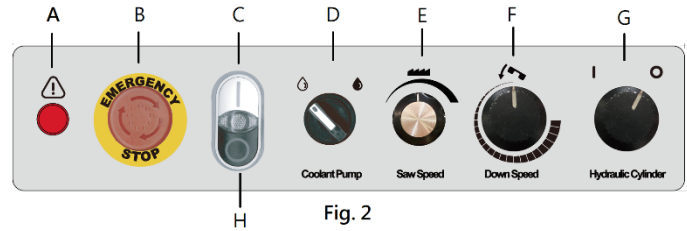

Fig. 2
2. The machine is started by pushing the start button (C) (see Fig.2). And it will continue to run until the saw arm is in the down position at the end of the cut, or when the stop button (B) is pushed.
3. When in emergency push button (B) to stop the machine. After removing the trouble, release emergency button, re-start the machine by pushing the start button (C).
4. When using the coolant turn the select button (D) to the right.
5. Set the blade speed with control knob (E).
- a. Press button H (see Fig. 2). Cutting fluid pump and blade should stop.
- b. Error Lamp for button (A), please refer to Troubleshooting page for error message.
6. To adjust the feeding rate when in cutting, turn the volume valve (F) clockwise for faster feeding, counterclockwise for slower feeding. When volume valve (F) has been properly adjusted, turn the control valve (G) to handle saw arm action.